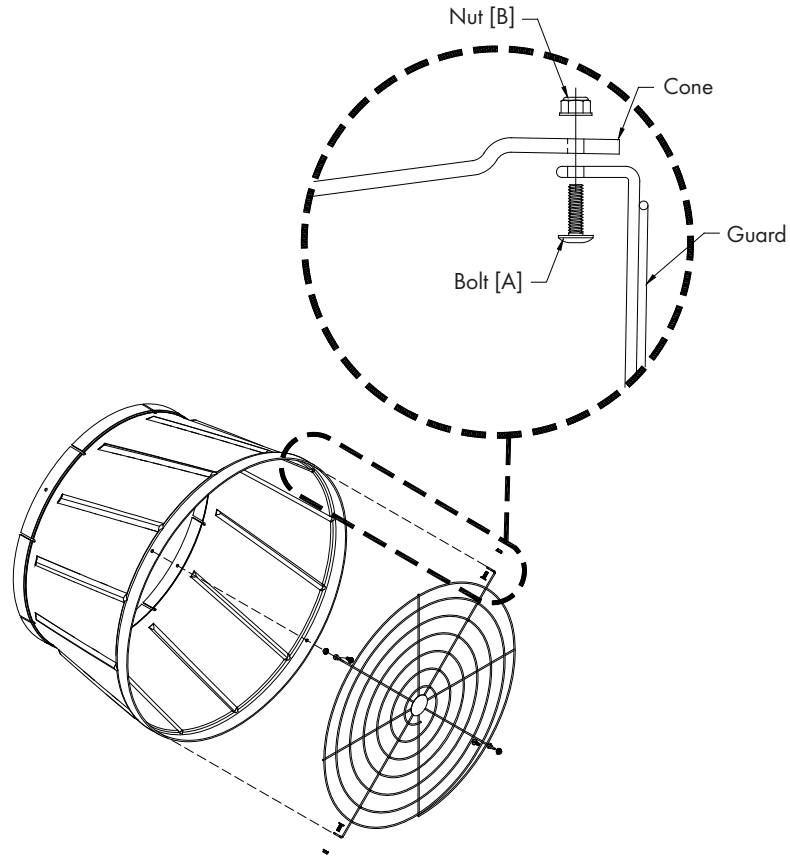

Figure 6
Insert guard into cone with the guard eyelets facing away from you. Line-up each eyelet with hole in cone and secure with (4) Bolts [A] and Nuts [B]. See Figure 6.